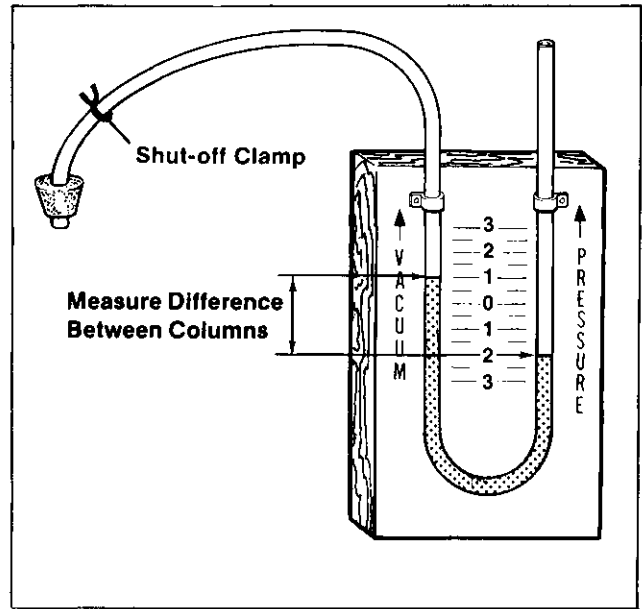

Figure 1-5. "U" Tube Manometer
1. Cut a piece of 1/2" plywood so it measures 10"x 30" as in Figure 1-5.
2. Fasten a six foot length of 1/2" O.D. clear plastic tubing to the plywood board as shown in Figure 1-5. Make a gradual rather than a sharp bend in the tube.
6. Pour colored water into the tube until the level reaches the halfway (0) mark of the scale marked on the plywood board.